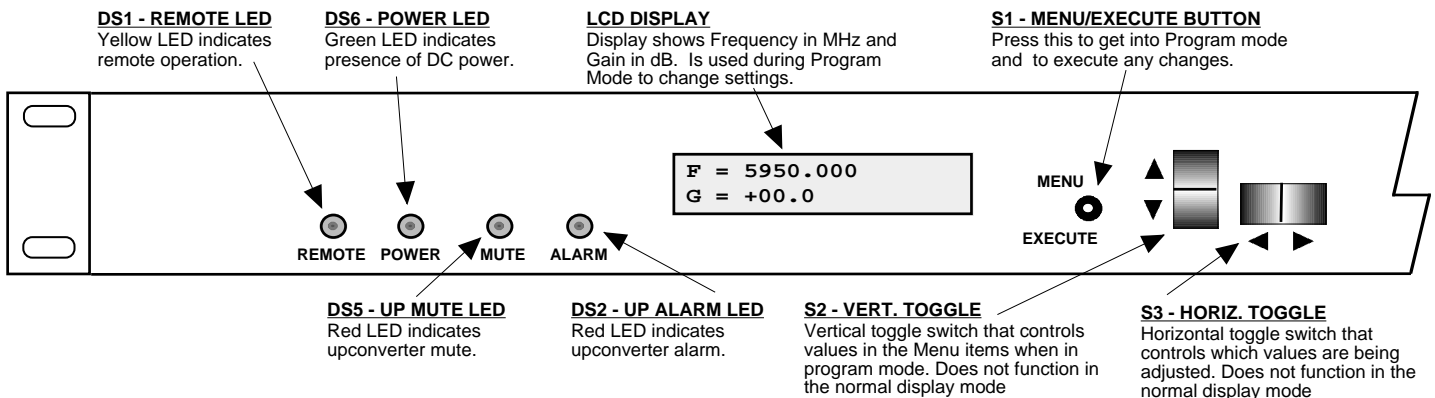

FIGURE 2.3 2015-57 Front Panel Controls and Indicators
2.3 Front Panel Controls and Indicators - Figure 2.3 shows the front panel controls and indicators.
7. Be sure DS6 (green, DC Power) is on and DS2 (red, Alarm) is off (Figure 2.3).